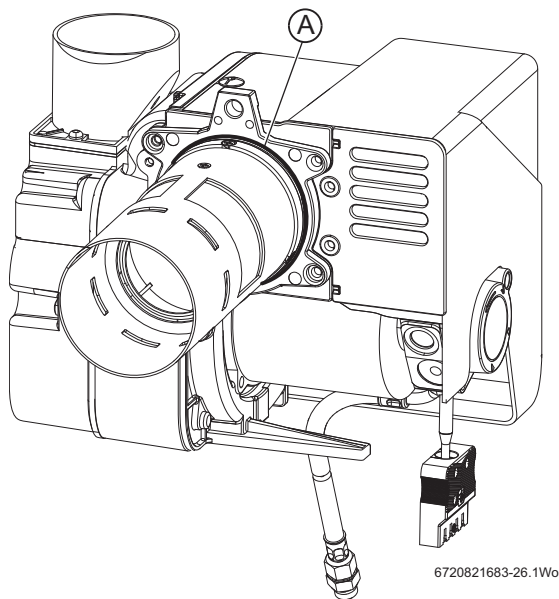

Fig. 52 12/18 Burner O-ring seal shown
- ▶ Always check that the O-ring seal (Fig 52 item A) is in good condition before fitting the burner. Replace the O-ring seal if defective.